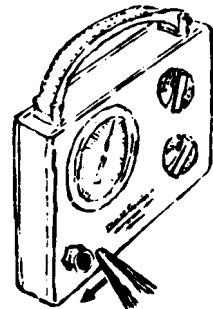

Fig. 4. Checking Sensitivity of Leak Detector
2. Pass the tip of the leak detector probe past the PROBE fitting on the Leak Standard at a rate of about one inch per second, so that the tip of the probe just grazes the front circular edge of the PROBE fitting and passes across the center of the PROBE fitting. (See Fig. 4.) **DO NOT LET THE LEAK DETECTOR PROBE TOUCH THE GLASS CAPILLARY.** If probe is allowed to touch, **YOU MAY BREAK THE GLASS CAPILLARY.**